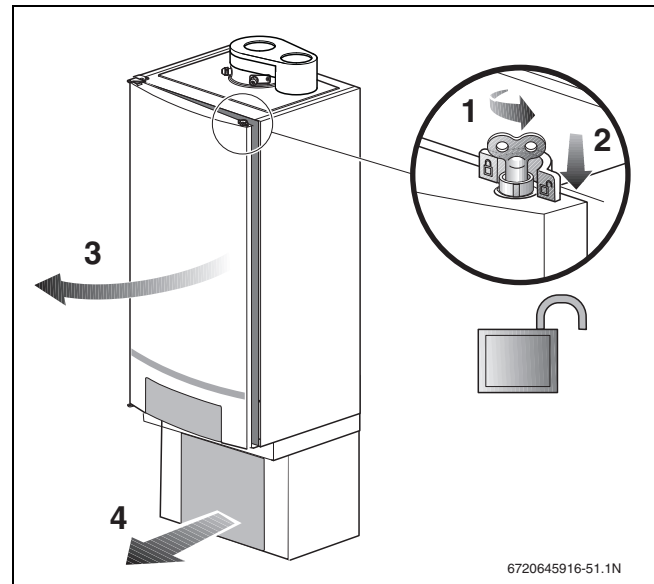

Fig. 55 Opening the boiler door
- ▶ Turn the vent key a quarter rotation to undo the boiler door lock (→ fig. 55, detailed picture). Push the fastener down (→ fig. 55, step 2) and open the boiler door.
- ▶ Remove the insulation cover of the pump group (→ fig. 55, step 4).
- Turn the vent key through a quarter rotation to undo the boiler door lock (→ fig. 55, page 32).